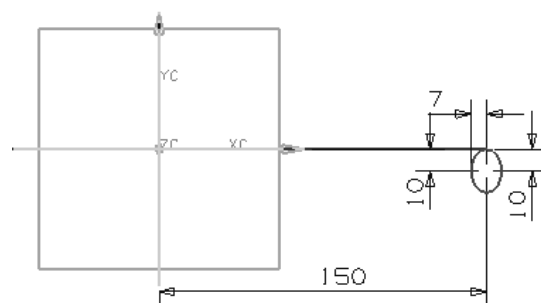

Figure 11-87 The sketch for the section string
2. Draw another ellipse on the XC-ZC plane as per the dimensions shown in Figure 11-87 and exit the **Sketcher** environment.